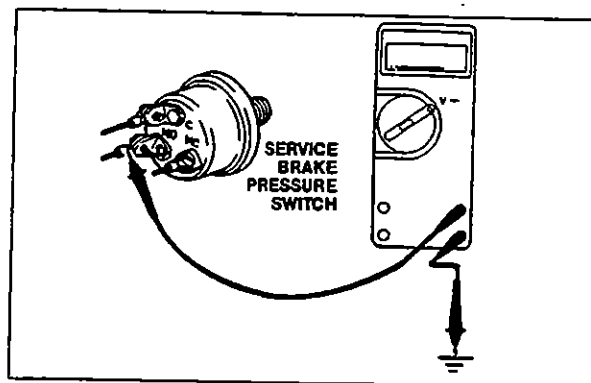

Fig. 1.1.15
**Correction:** Connect the positive (+) probe of the VOM to the normally open (NO) contact of the brake pressure switch and the negative (-) probe to ground. With the system activated, sufficient air pressure to activate the brake pressure switch, cruise control switch on, and clutch pedal up, the volt meter should read 5 volts (Fig. 1.1.15). With the service brake pedal depressed, the volt meter should read 0 volts. If these readings are not obtained, replace the service brake pressure switch.